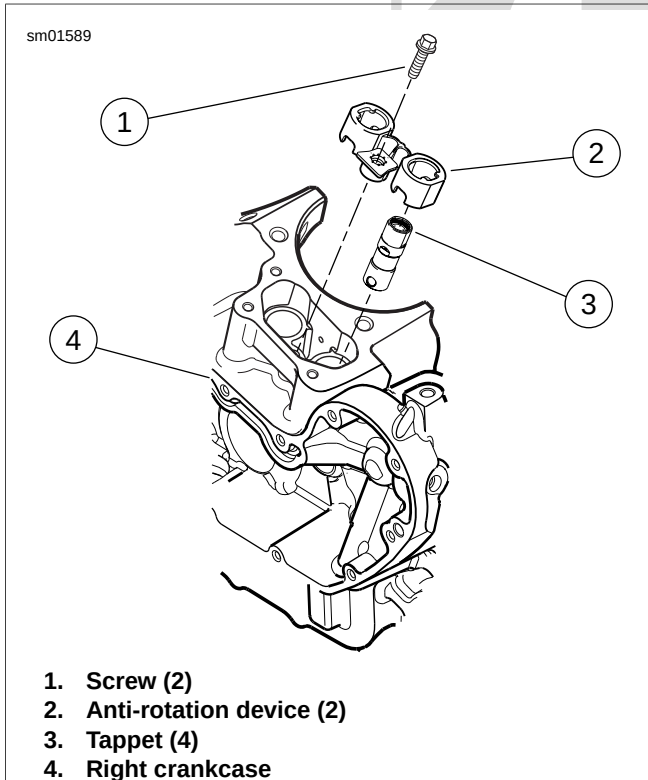

Figure 3-68. Tappet Removal
1. See Figure 3-68. Remove screw (1).
2. Remove anti-rotation device (2). Tag anti-rotation device for location (front/rear cylinder) as it is removed.
3. Remove tappet (3). Tag tappet for location (front/rear cylinder) and function (intake/exhaust) as it is removed. This will simplify installation.